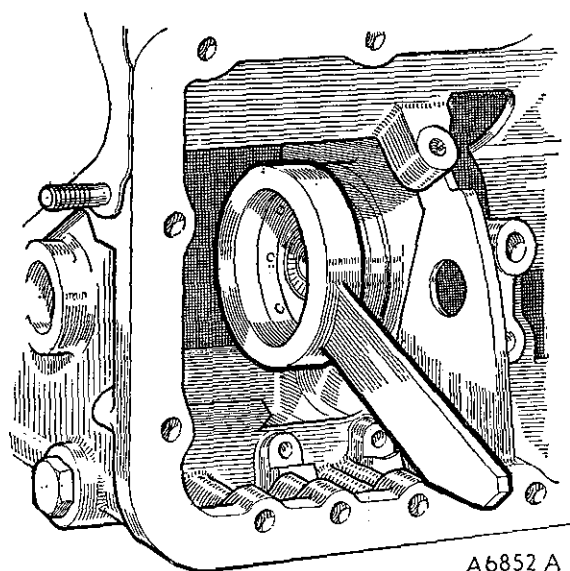
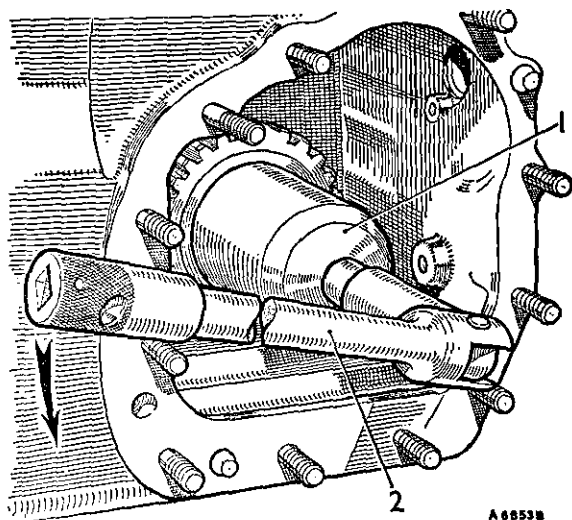

Fig. Fa.14
Fig. Fa.15
- (16) Remove the main oil feed pipe and strainer (see item (2a)).
- (17) Knock back the lock washer on the nut on the forward clutch splines and use Service tool 18G 1095 to hold the top and reverse clutch hub (Fig. Fa.14) and remove the nut with 18G 1096 (Fig. Fa.15). Drift out the top and reverse clutch hub and lift out the piston assembly.